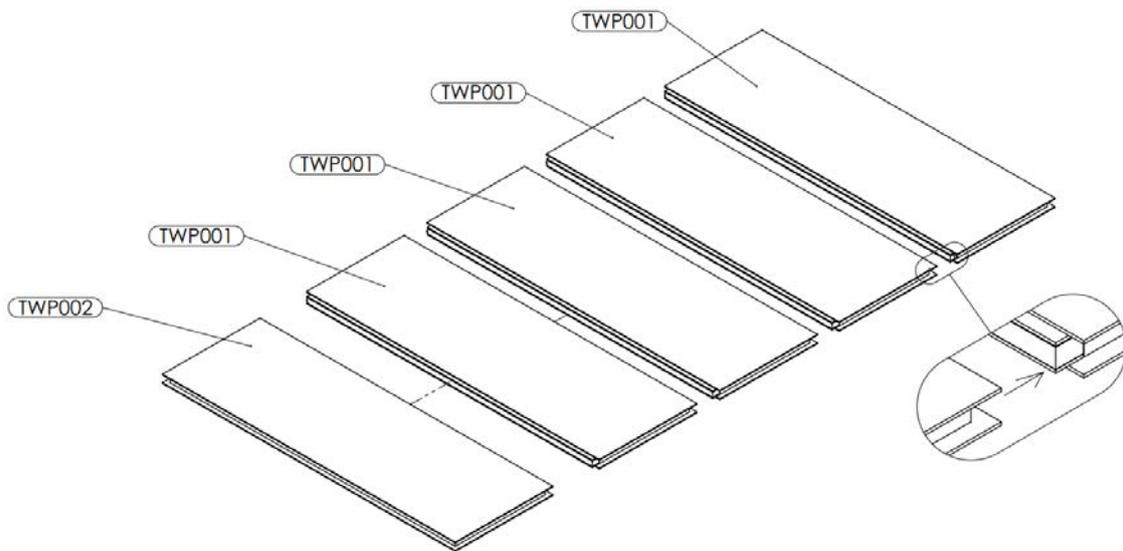

Figure 1: Sequence for Installing Floor Panels
1. Lay out floor panels in the sequence shown (TWP001 and TWP002) in accordance to Figure 1.